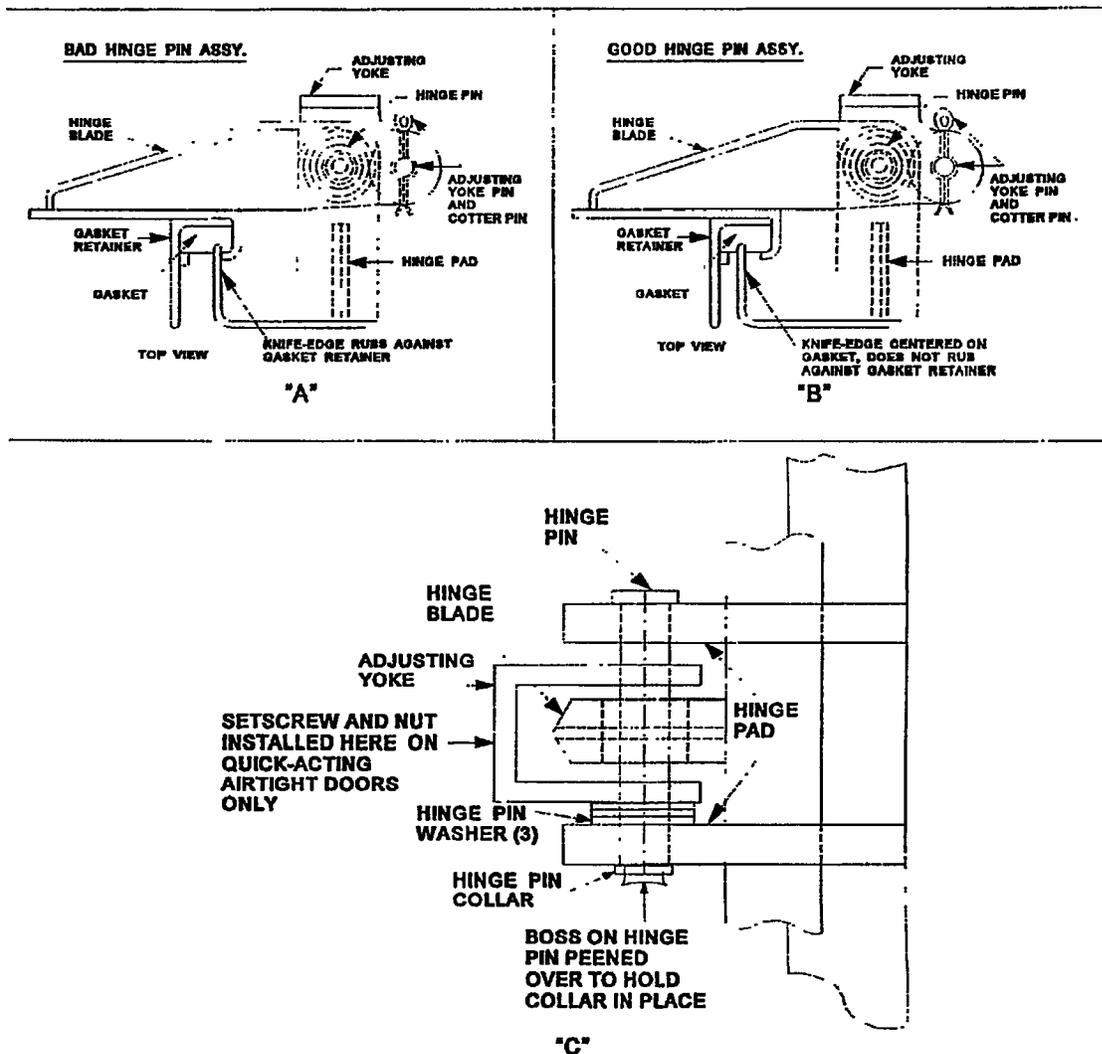

Figure 600-2.9. Hinge Pin Assemblies
4. The hinge pin washers are worn thin to approximately 1/32 inch. New washers are 1/16 inch in thickness. See figure 600-2.9, "C",